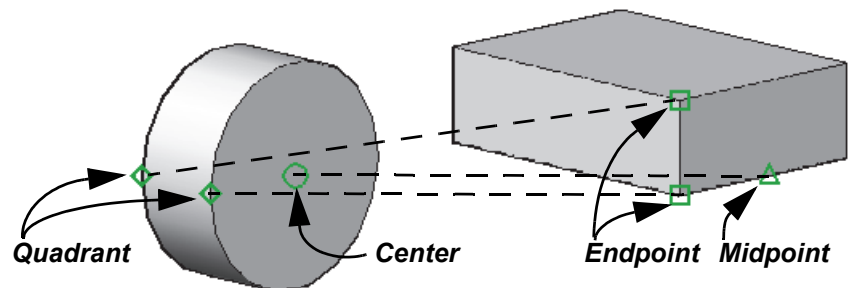

Figure 5–18
4. Click  (3D Align) and align the block to the unfinished bracket, as shown in Figure 5–17. (**Hint:** Use two source points and three destination points. Select the last destination point in an empty area in the drawing window. Toggle Polar Tracking on.)